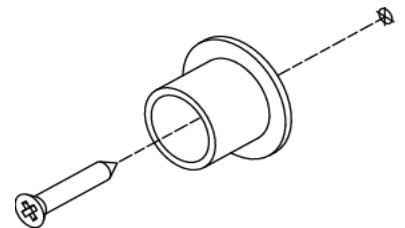

Fig.3
3. Select desired position of rod and mark centres of the mounting holes using the wall brackets as a template (see Fig. 3)